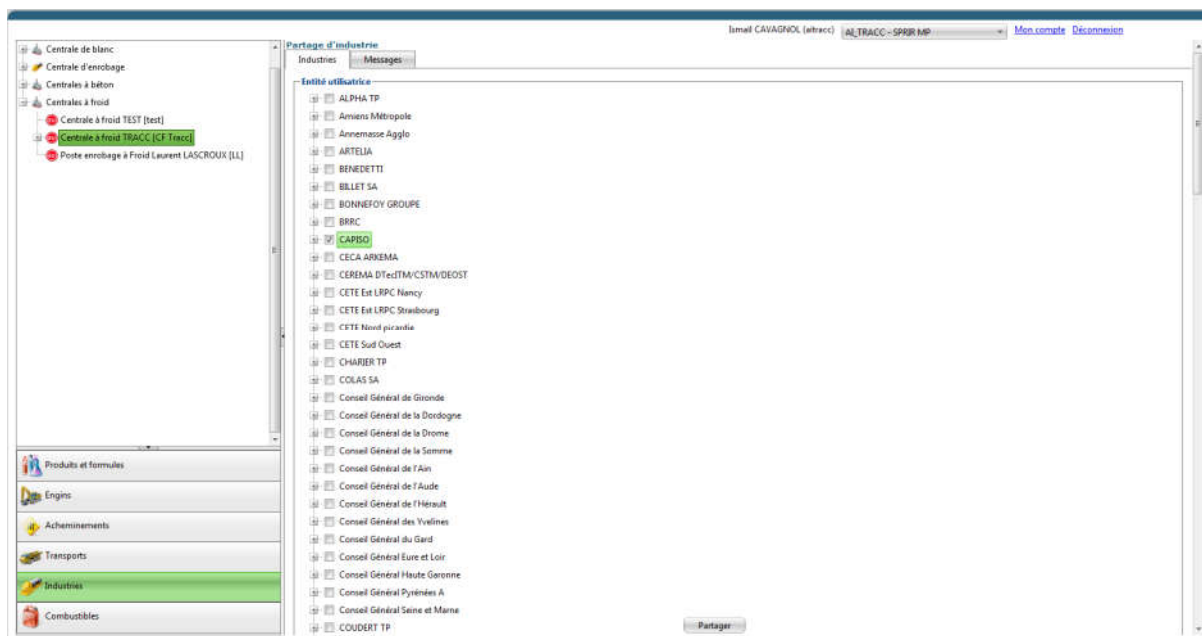

Figure 42 – Sharing an Industry
- 1- Right-click on the "Industries" tab (Figure 42)